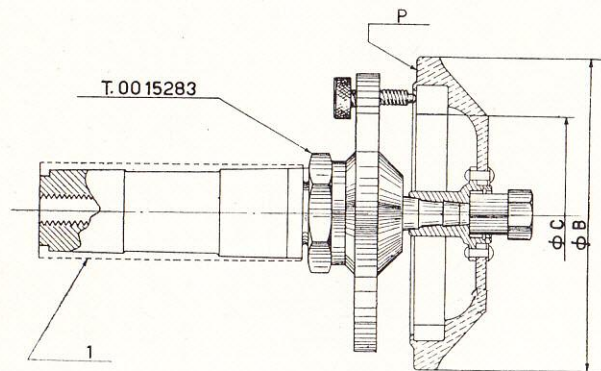

Fig. 76.
6. By means of mandrel T. 0015283 and a dial gauge ensure that both dia. "B" and "C" are concentric (see Fig. 76) and plane "P" is normal to rotation axis. Skim dia. "B" on a lathe if the error exceeds 0.03 mm.